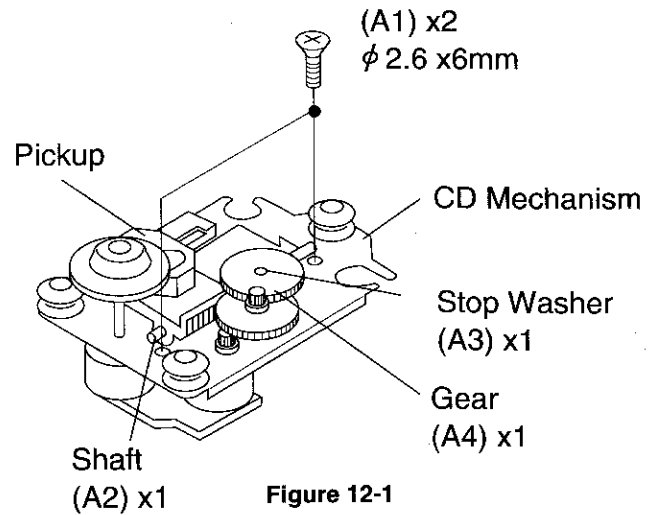

Figure 12-1
**How to remove the pickup (See Fig. 12-1.)**